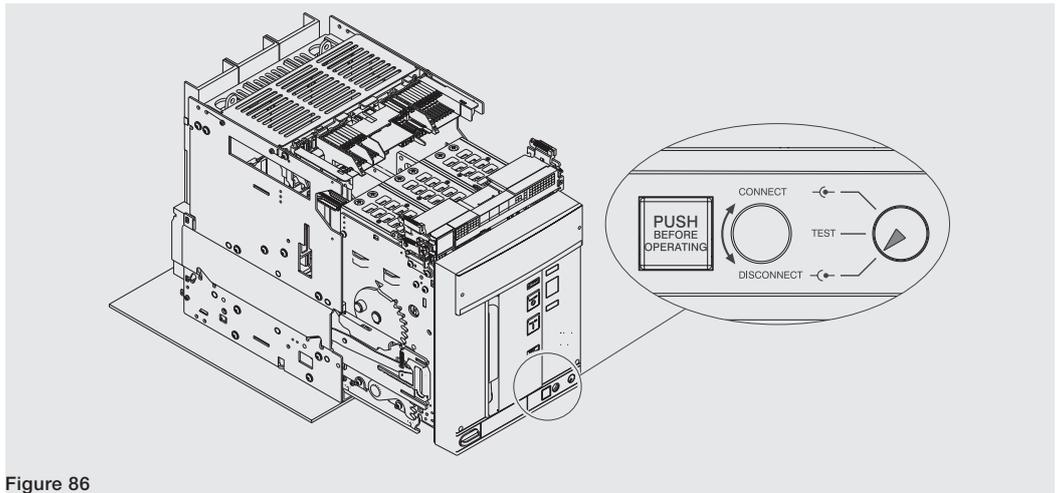

Figure 86
6. Make sure that the signalling device indicates the **DISCONNECT** position. See Figure 86.